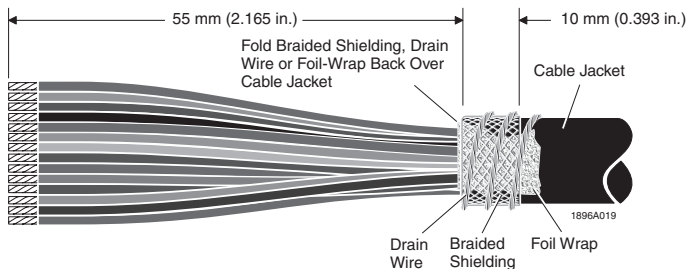

Figure 5. Preparing the Cable Shielding
4. Fold back the braided shielding, foil wrap, or drain wire evenly over the cable jacket. See Figure 5.